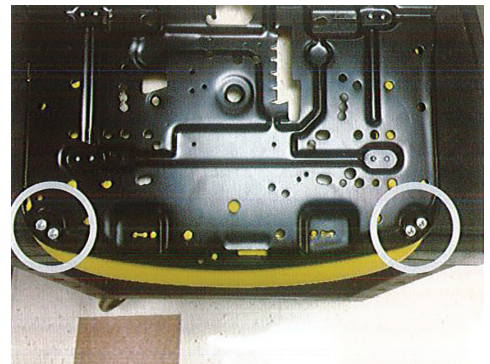

Figure 4
4. Install the four (4) front screws (see Fig. 4).